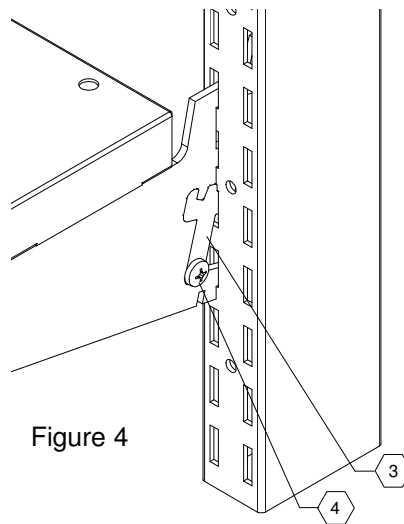
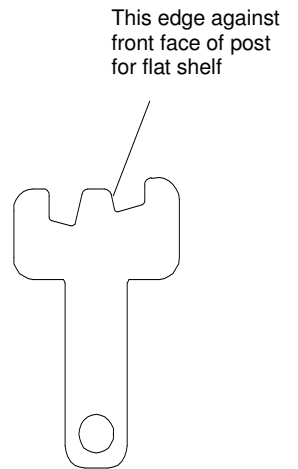

Figure 4
Figure 5
4. Insert forked end of security clip (item 3) into post, as shown in Figure 4, and rotate to align the hole with hole in mounting bracket. Clips can be installed on either side of bracket. Figure 5 shows proper orientation of clip.
5. Secure clips to mounting bracket using (2) 10-32x1/4" pan head taptite screws (item 4), Figure 4.